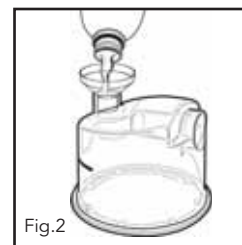

Fig.2
- c. Fill the chamber up to the water filling line with distilled water only (Fig.2).